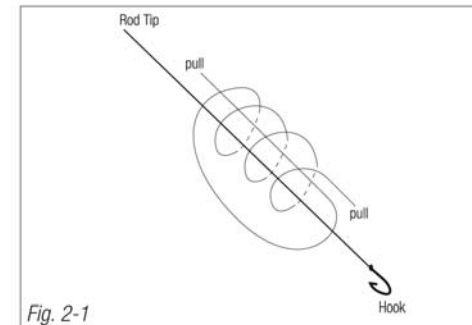

Fig. 2-1
2. For consistent depth measurement only, tie a slipknot on the line, (Fig. 2-1) or color it with a marker. This will help you get to the exact area in the water column more consistently where you want to fish. You can adjust the slipknot for the height of your bait while you are fishing. Try to tie the knot with a smaller diameter line like two or four lb. test, so it will slide through the eyelets and bobber more easily. **Keep the slipknot under the water about one inch.**